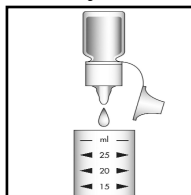

Figure 2
3. Shake the A-3801 Activator Solution, then add 5 drops to the sample cup (fig 2). Stir to mix the contents of the cup.